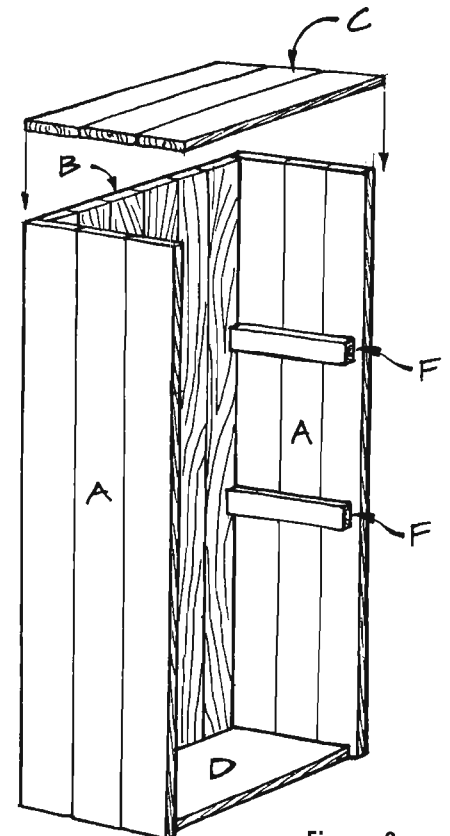

Figure 2
1. *Figure 2* shows the assembly of the cabinet. Note that the cabinet top, back, and sides are all flush at the rear, and that the top overhangs the sides and front by 1/2 inch. The bottom fits inside the cabinet like a bottom shelf. Use glue and screws on all of the assembly steps, and countersink the screws.
2. Place the back (B) between the two sides (A). Screw through the sides (A) into the edges of the back (B) using 1-1/4-inch-long screws spaced about 5 inches apart.
3. Fit the bottom (D) between the two sides (A) so that it is flush with the lower edges of the sides. Screw through the sides (A) into the edges of the bottom (D) using three 1-1/4-inch-long screws on each side. Also use three 1-1/4-inch-long screws through the back (B) into the edge of the bottom (D).